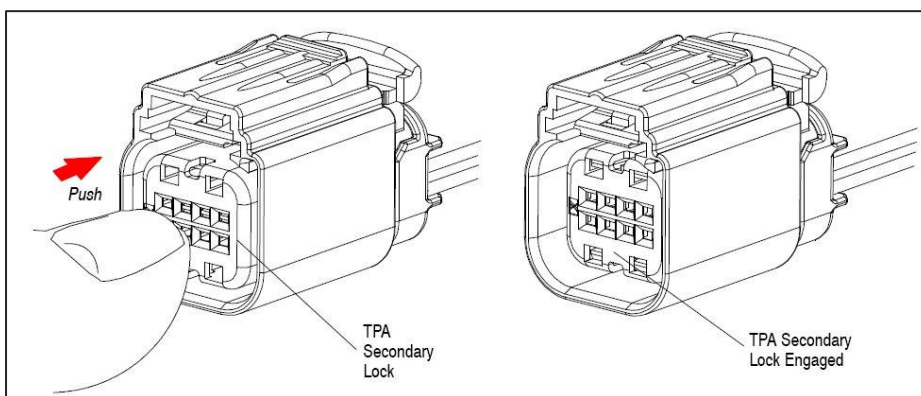

Figure 3-7. Engaging TPA Secondary Lock
- c) When all of the required socket contacts have been inserted, complete the assembly by pushing the TPA into the fully locked position. The TPA may be fully locked by holding the rear of the plug connector assembly and pushing the TPA toward the rear of the connector. See **Figure 3-7**.